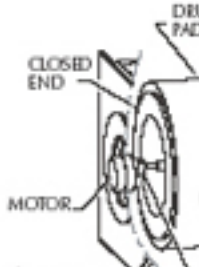

Figure 19
16. Starting with the closed end install the drum into the center of the motor coupling then install the other end of the drum shaft into the bearing, gently pushing down into position. (Fig. 19)